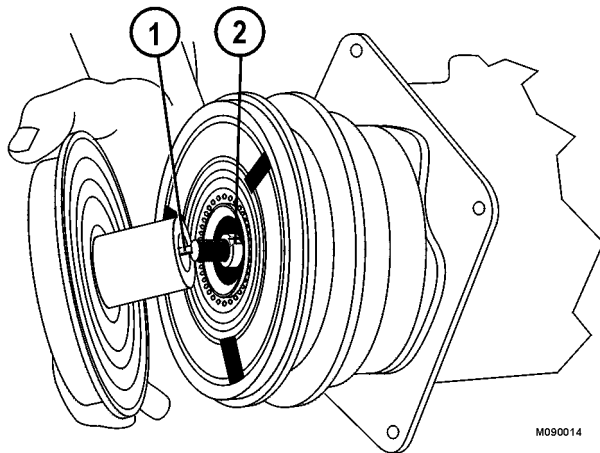

FIGURE 9-13.
5. Remove square key (1, Figure 9-13) from the keyways.